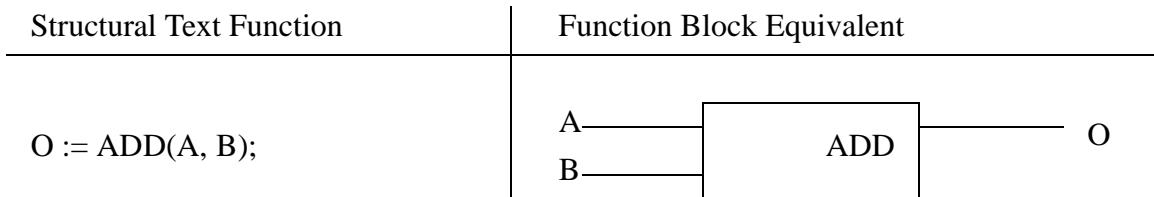

Figure 21.3 A Simple Function Block
The basic functions used in FBD programs are equivalent to the basic set used in Structured Text (ST) programs. Consider the basic addition function shown in Figure 21.3. The ST function on the left adds *A* and *B*, and stores the result in *O*. The function block on the right is equivalent. By convention the inputs are on the left of the function blocks, and the outputs on the right.